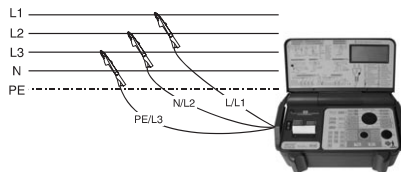

Figure 6.16.1 Connection of instrument
- ▶ Switch on the UNITEST EURO EXPERT plus using the switch 'ON/OFF' (9).
- ▶ Set the measurement range switch (1) to function 'Rotary field' (12)
- ▶ Connect the test leads to instrument, measurement connector (17).
- ▶ Connect the test leads with object see figure 6.16.1 oder 6.16.2. Important: the test leads L1, L2 and L3 must be correctly connected